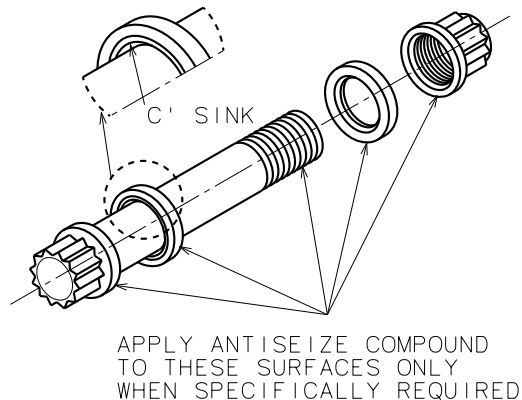

Figure 312 - Wheel Tie Bolts
**NOTE:** All Torque values listed on Cleveland Products are considered to be “DRY TORQUE” values unless “LUBTORK” is specified. “LUBTORK” requires the application of an antiseize compound conforming to MIL-T-5544 or MIL-T-83483 to all friction surfaces as shown in Figure 312. Only use the antiseize specified for your wheel assembly.
- 2 Install bolts through brake disc and wheel halves. Both plain and countersunk washers may be used. Some designs use bolts that have a radius between the head and shank, which requires the countersunk washers. Inspect bolts and washers prior to assembly. (Ref. Figure 312). Properly oriented washers with countersunk surfaces to sit flush against the bolt head. Install washers and nuts on bolts (bolt heads are to be on brake disc side of wheel). Torque nuts to value specified on wheel casting or nameplate, using a crisscross pattern until all nuts are properly torqued. Do not use power tools for the installation of nuts and bolts.